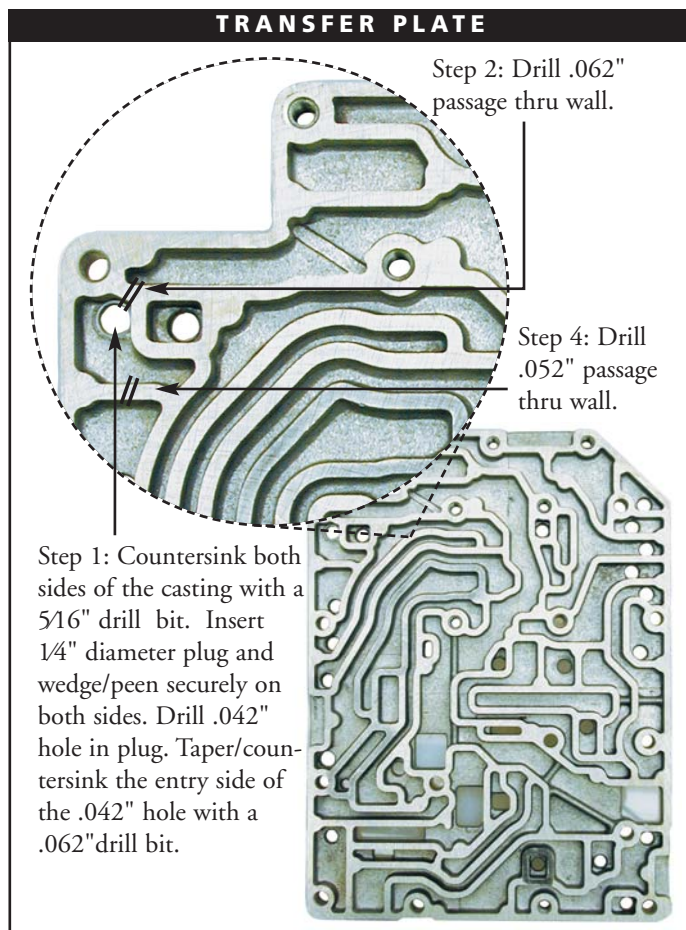

Figure 1
1. Lightly countersink (see Figure 1) the CCX (regulated converter charge) hole approximately $\frac{1}{2}$ " deep on both sides of the transfer plate with a $\frac{5}{16}$ " drill bit. This will create a shoulder to wedge the aluminum plug onto. Insert the $\frac{1}{4}$ " diameter x .225" long aluminum plug from this side of the plate and drive until mushroomed tightly. Verify case side of plate is flush, and stone or file if necessary. Drill a .042" orifice hole in this plug. Use a .062" drill bit to taper/countersink the entry side of the .042" hole.
2. On the transfer plate (see Figure 1), drill a .062" hole through the indicated wall. This will connect the line pressure circuit to the lube circuits.
4. On the transfer plate (see Figure 1), drill a .052" hole through the indicated wall. This will connect the differential and front lube circuits.